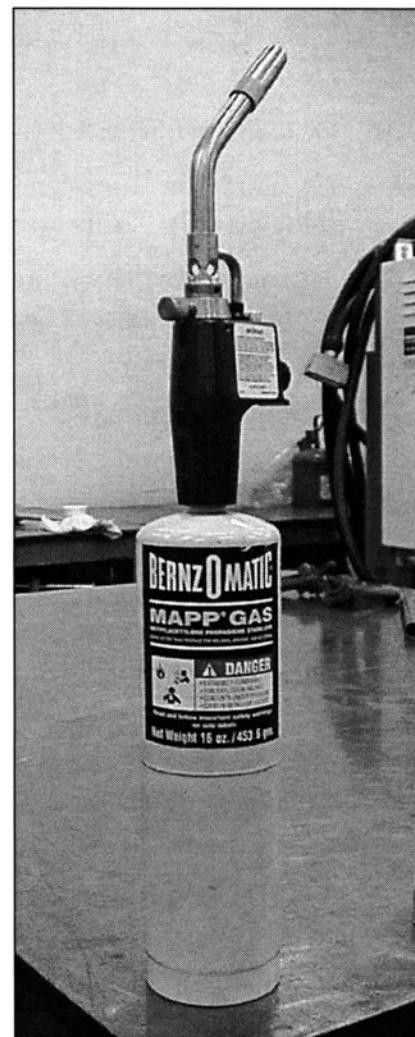

FIGURE 17-2
32. *Use a Mapp® gas in combination with a self lighting torch head to avoid having to set up an oxyacetylene torch. (See Fig. 17-2)*